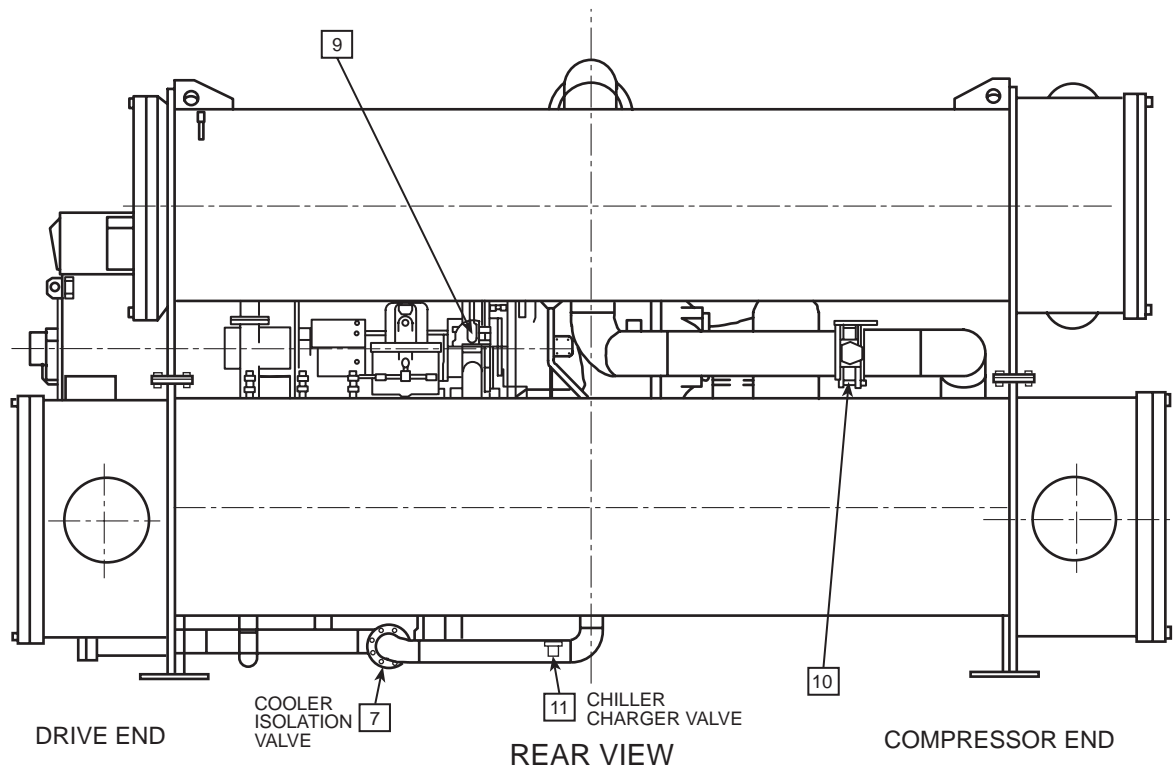

Fig. 32 — Pumpout Unit Location and Valve Number Locations
1. Be sure that the suction and the discharge service valves on the optional pumpout compressor are open (back seated) during operation. Figure 32 shows the location of these valves (valves 2, 3, 4, 5, and 8). Rotate the valve stem fully counterclockwise to open. Front seating the valve closes the refrigerant line and opens the gage port to compressor pressure.
- Refer to Fig. 32 for valve locations and numbers.